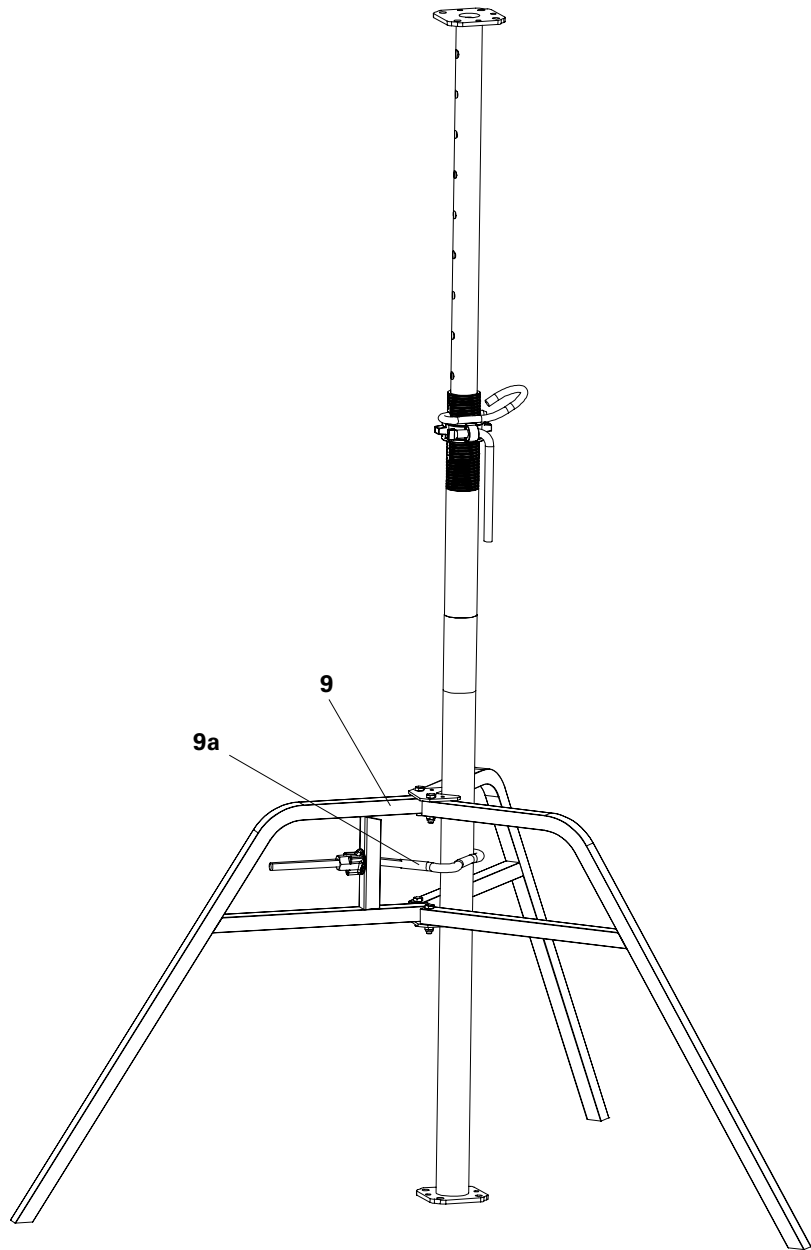

Fig. A1.04
1. Insert pre-assembled slab prop into the Universal Tripod (9). (Fig. A1.04)